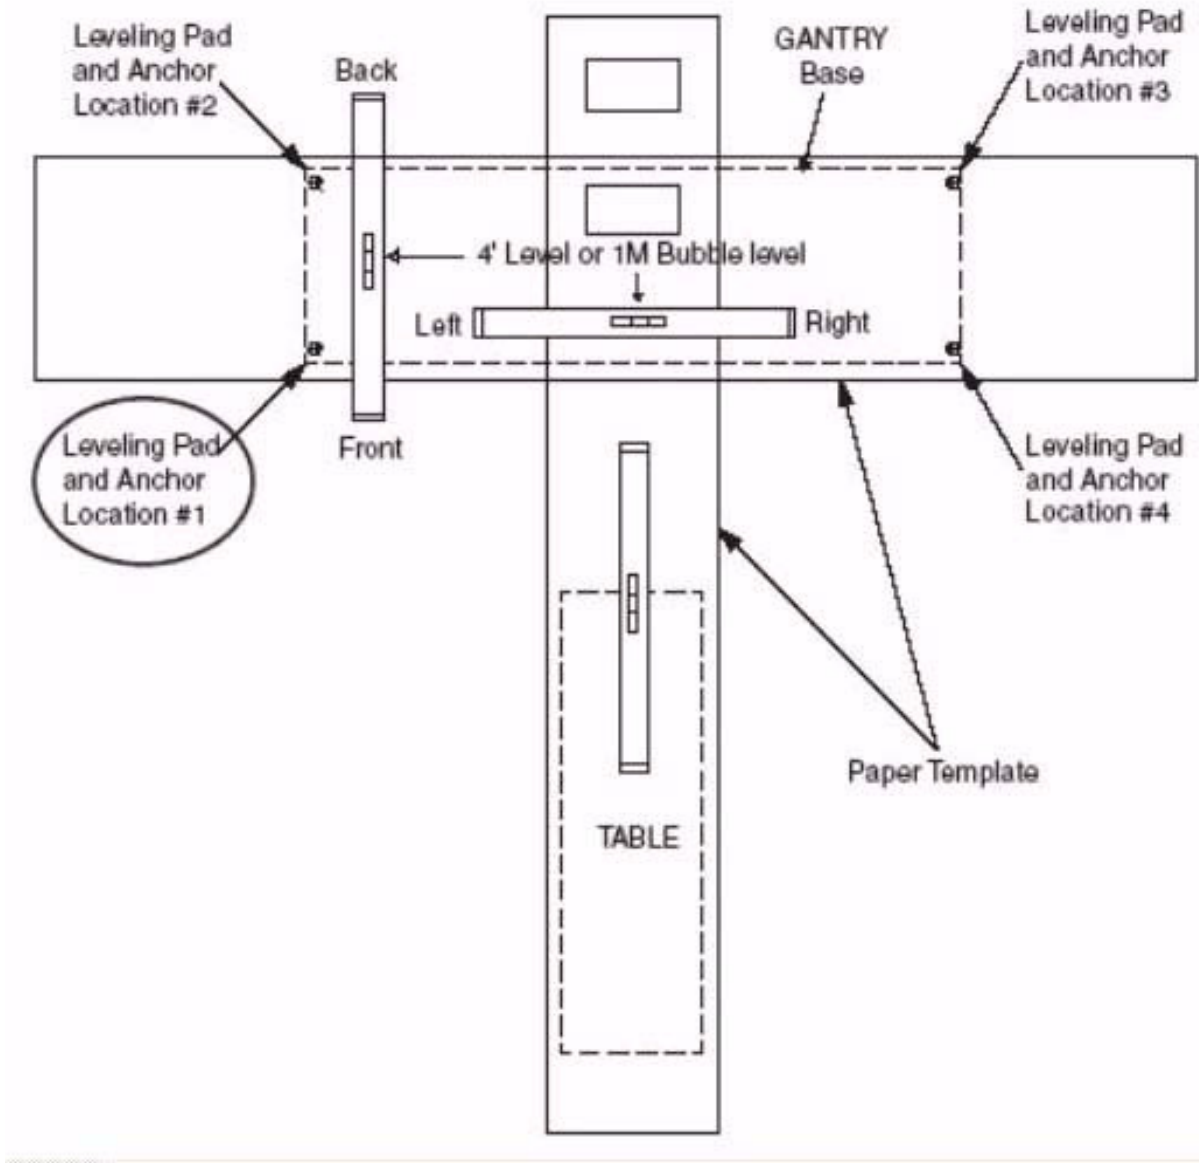

Figure 8-3 Determining Floor Levelness
- Refer to the steps listed in Section 3.1.3 and to Figure 8-3 to check whether the floor of the scan suite meets the floor levelness specifications for the system.
as shown in Figure 8-3.